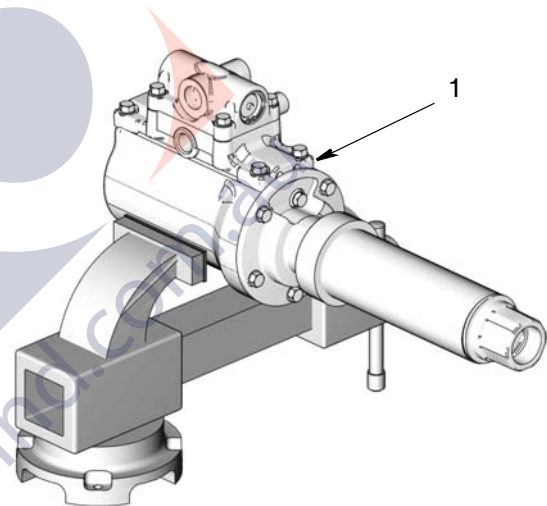

Fig. 1
3. Clamp the pump (1) horizontally in a vise as shown in Fig. 1.